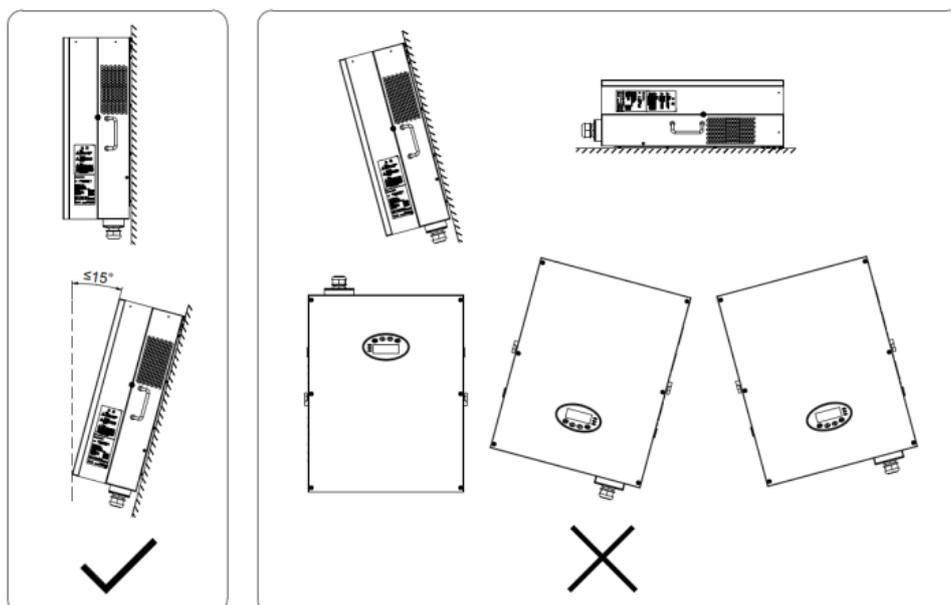

Fig 4.6 Installation position of the inverter
- (4) The ambient temperature of installation should be $-25^{\circ}\text{C}\sim 60^{\circ}\text{C}$
- (5) The installation site should be away from electronic devices which can generate strong electromagnetic interference
- (6) The inverter should be installed on firm and solid surface eg wall surface and metal bracket
- (7) The installation surface should be vertical to the horizontal line, as shown in Figure 4.6